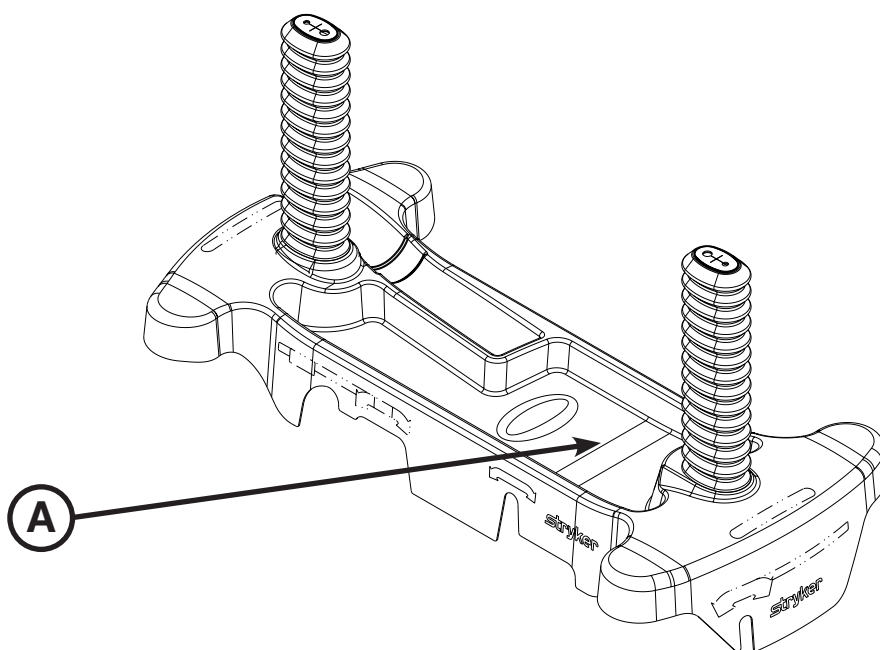

Figure 8: Base Hood Storage
You can store items in the base hood (A) as shown in Figure 8.